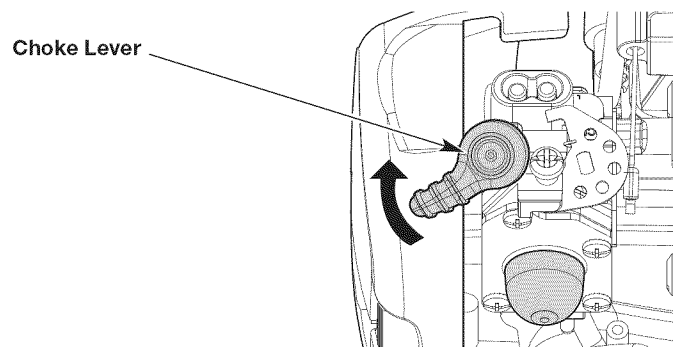

Fig. 9
4. Flip the choke lever clockwise until it clicks (Fig. 9).